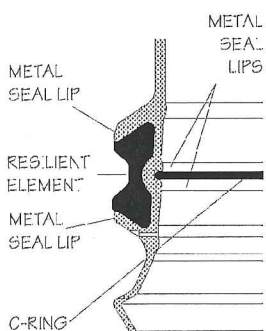

Figure 4. Detail of the seal areas
2. Refer to **Figure 4**. Inspect the sealing area on the OD of the Seal Assembly. Inspect the metal sealing lips above and below the resilient secondary seal for deformation or scratches. These are the primary OD seals and they require protection. Inspect the resilient secondary seal for damage.